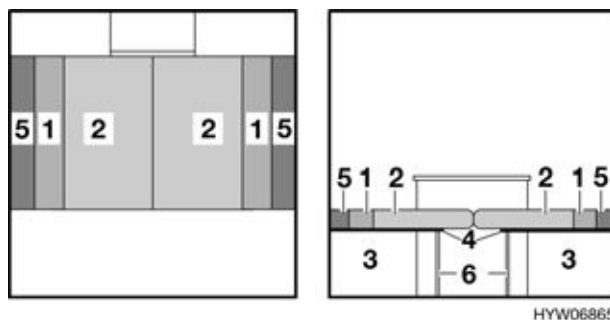

Fig. 95 After conversion into one large bed
- Pull out slatted frame (Fig. 95,4) completely.
- Unfold slatted frame supports (Fig. 95,6).
- Insert the back cushion (Fig. 95,1) and the additional cushion (Fig. 95,5) between the seat cushion (Fig. 95,2) and the exterior wall.